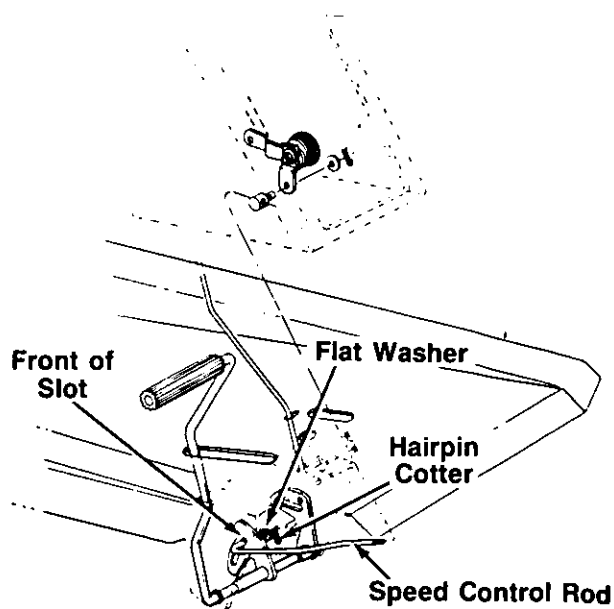

FIGURE 20.
7. Disconnect the speed control rod by removing the hairpin cotter and flat washer. See figure 20.
9. Adjust the rod by threading it in or out of the ferrule until it is all the way to the front of the slot as shown in figure 20.